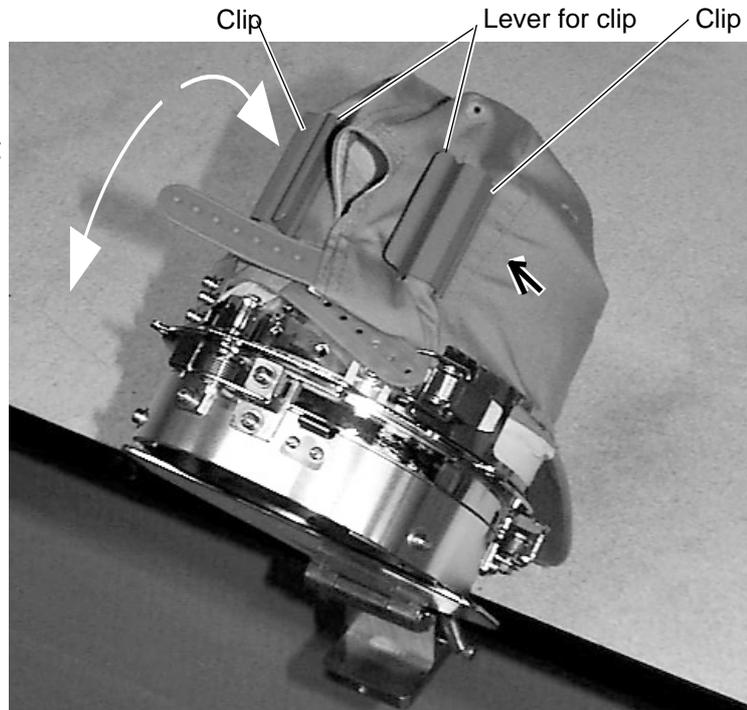

Fig. 4
6. As shown in Fig. 4, tip the cap stretcher forward. Clip the back of the cap in two places by stretching the crease out as shown by the arrows.